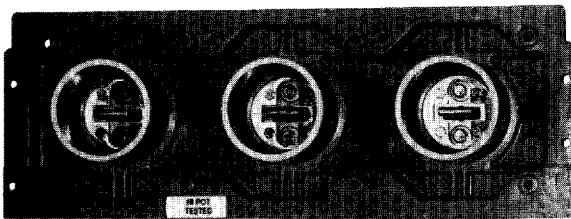

Fig. 7 Polyester Primary Disconnect
- (a) Mount lower primary disconnect (Fig. 7) perpendicular to datum "A" within .030" (.762mm) of locations shown on 0144D2915, sheet 2. Center line of studs in lower primary to be 10.938" (277.825mm) above datum "A". Mounting surface of primaries (datum "E") to be 26.875" (682.625mm) behind datum "B". Datum "E" to be parallel to datum "B" within .015" (9.381mm).
- (b) Mount upper primary disconnect (Fig. 7) perpendicular to datum "A" with the same tolerance as lower primary. Center line of studs in upper primary to be 23.4375" (595.312mm) above datum "A". Mounting surface of primaries (datum "E") to be  $26.875 \pm .030$ " ( $682.625 \pm .762$ mm) behind datum "B".